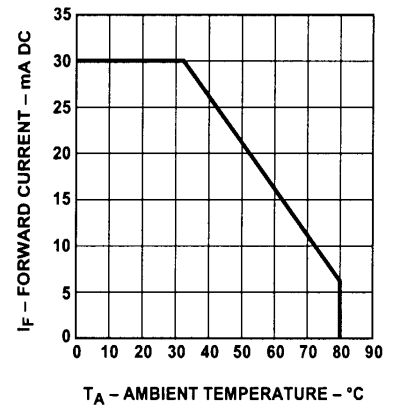

Figure 6. Maximum DC Forward Current vs. Ambient Temperature. Derating Based on T_j Max. = 115 $^{\circ}$ C.
- Derate linearly from 50 $^\circ\text{C}$ as shown in Figure 6.